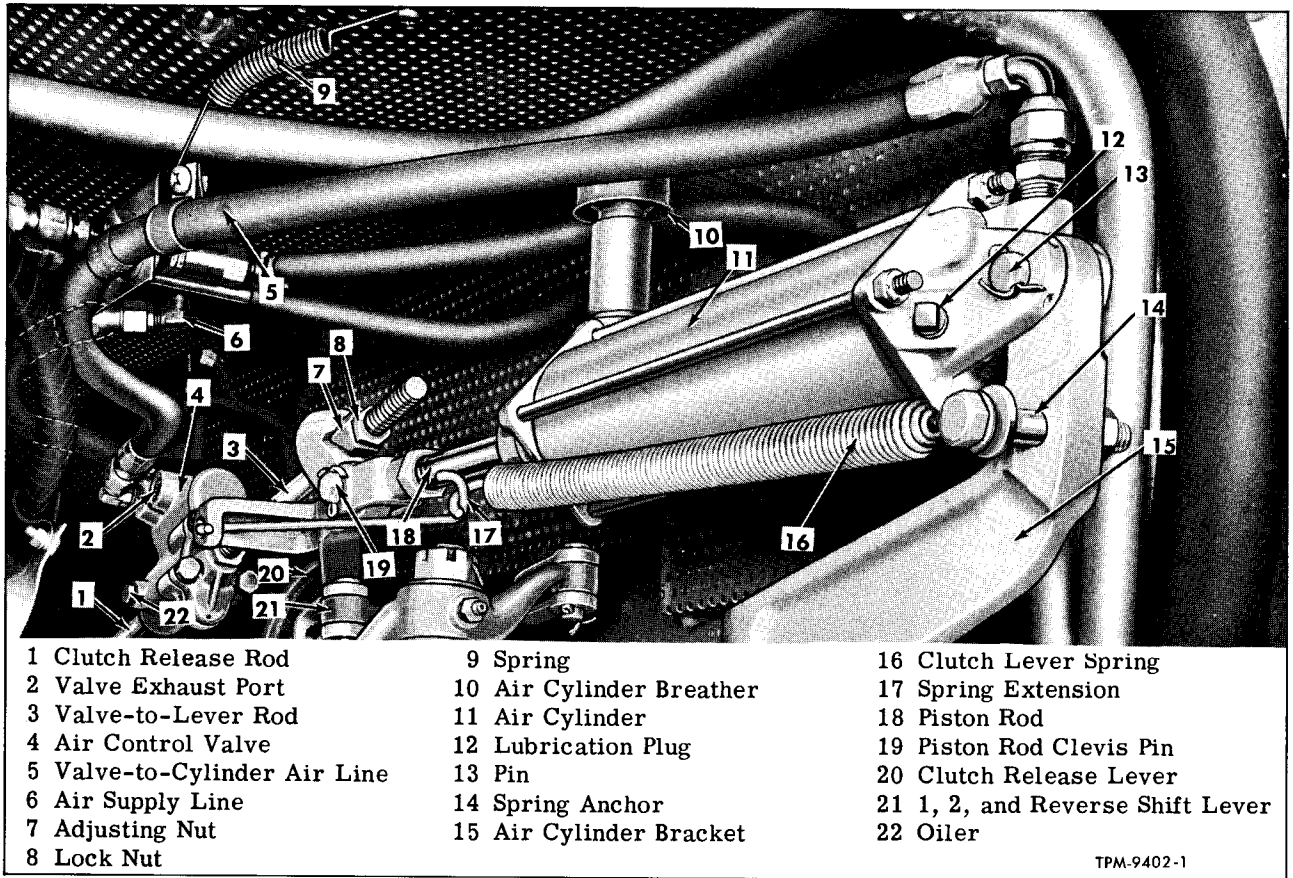

Figure 4—Air Cylinder and Control Valve Installed
4. At intervals specified on Lubrication Chart, remove pipe plugs (12, fig. 4) from both ends of air cylinder and introduce one ounce of engine oil into each end of cylinder. Refer to LUBRICATION (SEC. 13) for type and viscosity of oil to use.
5. At 50,000 mile intervals remove and discard air cylinder breather (10, fig. 4) and install new breather assembly.
7. Apply S.A.E. 10W engine oil at oiler (22, fig. 4) on valve assembly at intervals specified in LUBRICATION (SEC. 13).
REMOVAL (Refer to Fig. 4)